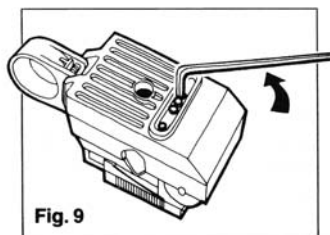

Fig. 9
**I. Adjust blade depth** to match your cable size by turning allen screws at base of tool. (fig. 9).